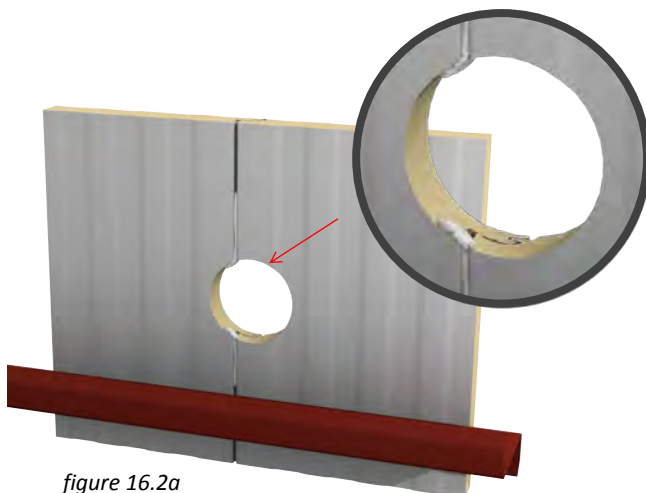

figure 16.2a
- plug interior joint above and below opening with butyl sealant (figure 16.2a)